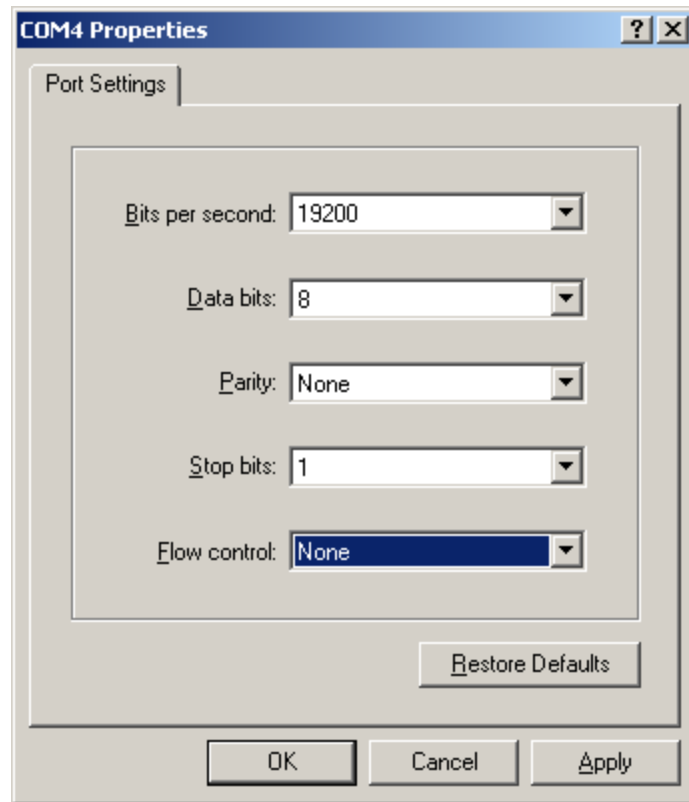

Figure 8 • HyperTerminal Port Settings
3. The COM4 Properties window is displayed. Select the following settings (Figure 8):